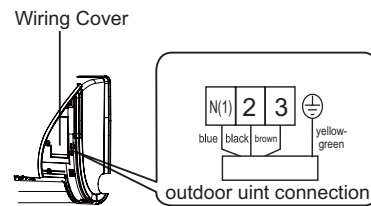

Fig 1
2. Remove the wiring cover, connect and fix power connection cord to the terminal board as shown in Fig 1.